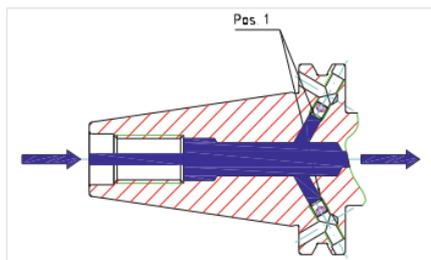

Fig. 16: Coolant Supply **Form AD/JD**
4. Screw the threaded pins with medium-strength thread locking compound (adhesive) into the cooled tool holder at "Pos. 1" (see Fig. 16: *Coolant Supply Form AD/JD*).